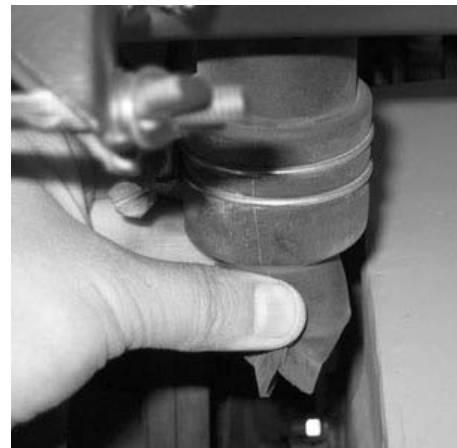

Figure 3-9
3.4.1.8 Clean the air filter (figure 3-9)